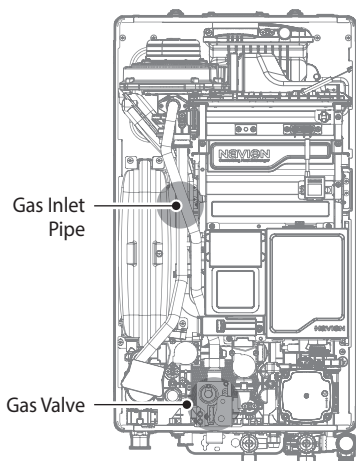

Figure 2. NCB500 Internal Components
8. With the internal components exposed, locate the gas inlet pipe and the gas valve in the middle of the unit, as shown in Figure 2.